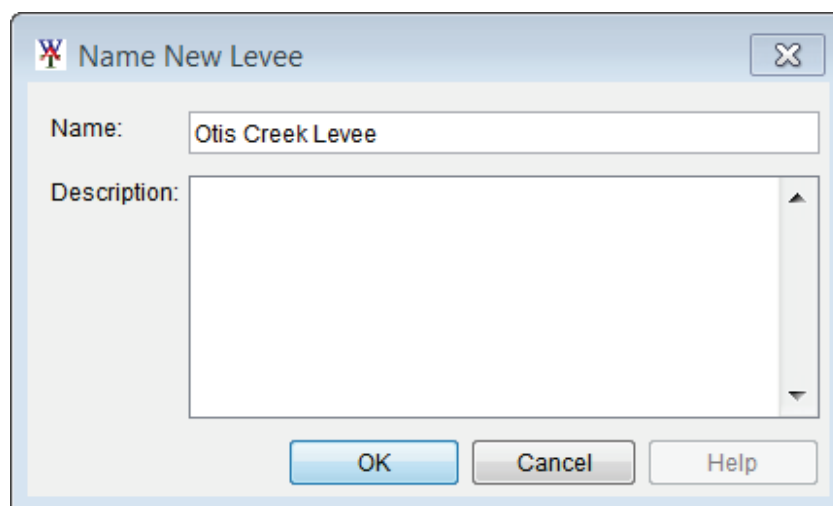

Figure G.13 Name New Levee Dialog Box
5. The **Name New Levee** dialog box opens (Figure G.13). Enter the new **Name** (required) and **Description** (optional, but recommended). Click **OK**, the **Name New Levee** dialog box will close.